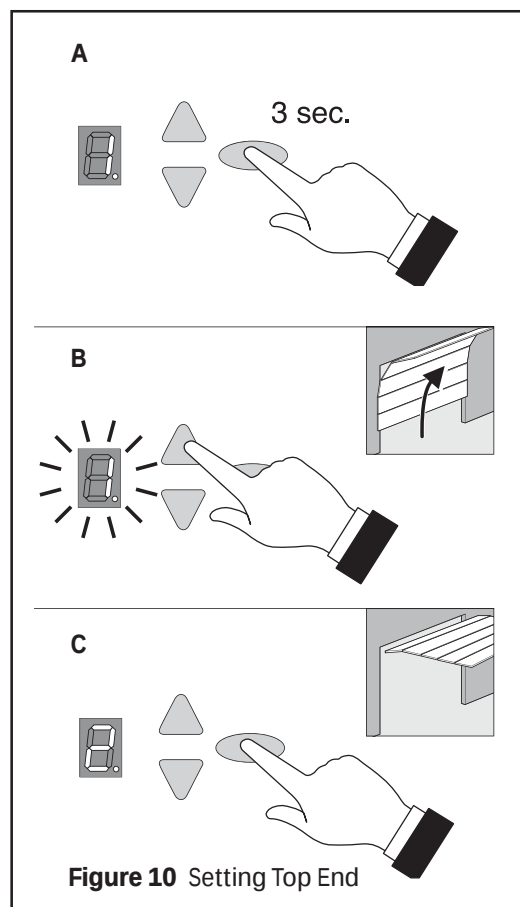

Figure 10 Setting Top End
- A Keep button D pressed for 3 seconds (**Figure 10**).